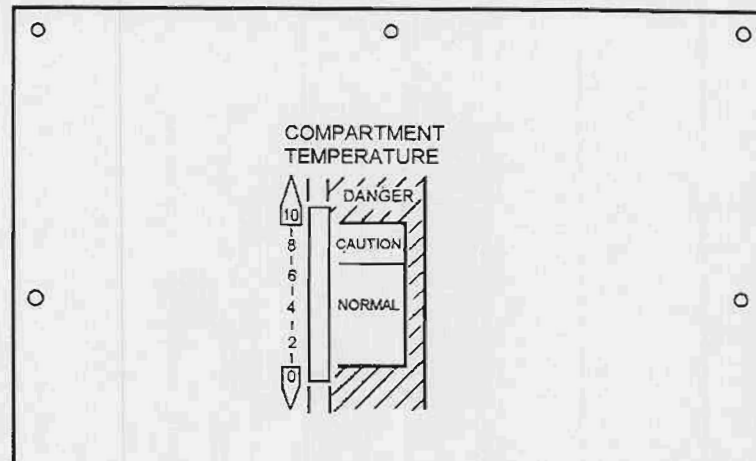

Figure 1-6. Temperature graduations.
- (1) Temperature graduations for reading the storage compartment thermometer are depicted in figure 1-6.